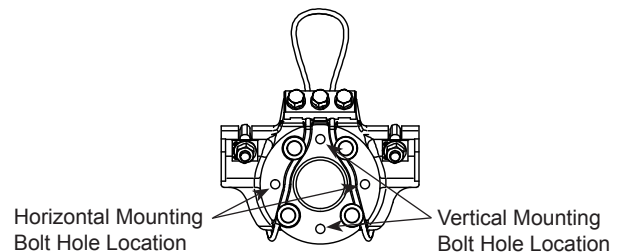

Figure 3
16. Install the hinged tube clamp assembly (with its attachments installed) onto the female clamp, for either horizontal or vertical orientation (Figure 3), and install the (2) 7/16" bolts.
17. Plumb and level the assembly and torque the (2) 7/16" bolts to 36 ft-lb. **DO NOT OVERTIGHTEN.**